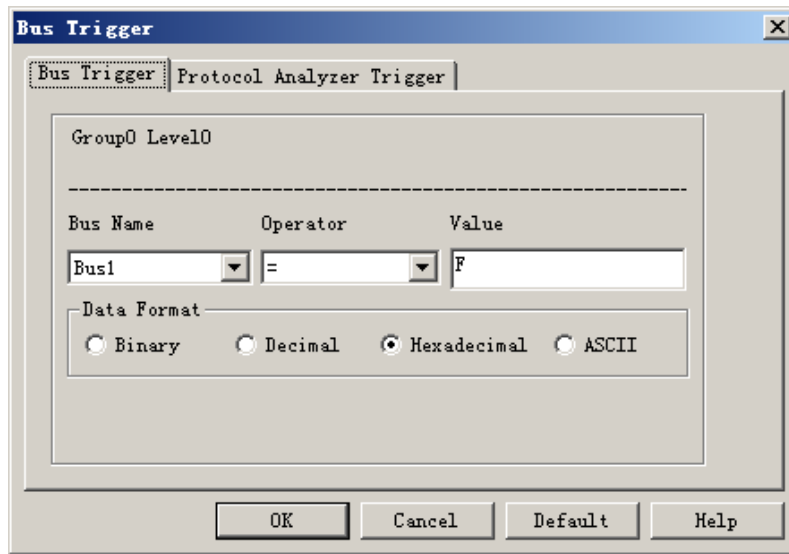

Fig 4-33 – Bus Trigger Setup
1. Highlight the Bus which will be triggered, then click  icon or select **Bus Trigger Setup** from the Trigger of the Menu Bar, the dialog box as shown in Fig. 4-33 will appear.
2. Set Binary, Decimal, Hexadecimal or ASCII as the signal of the Bus to represent the value (see Fig 4-33).